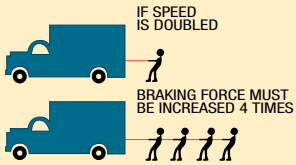
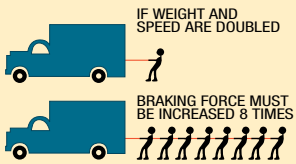

Figure 2
Figure 3
- 4 Speed.** The greater the speed, the more time and distance are needed to stop. Figure 2 illustrates that doubling the vehicle speed means that four times the braking force is required to bring the vehicle to a stop. Figure 3 illustrates that if both the speed and weight are doubled, the amount of force required to stop the vehicle will be increased by eight times.